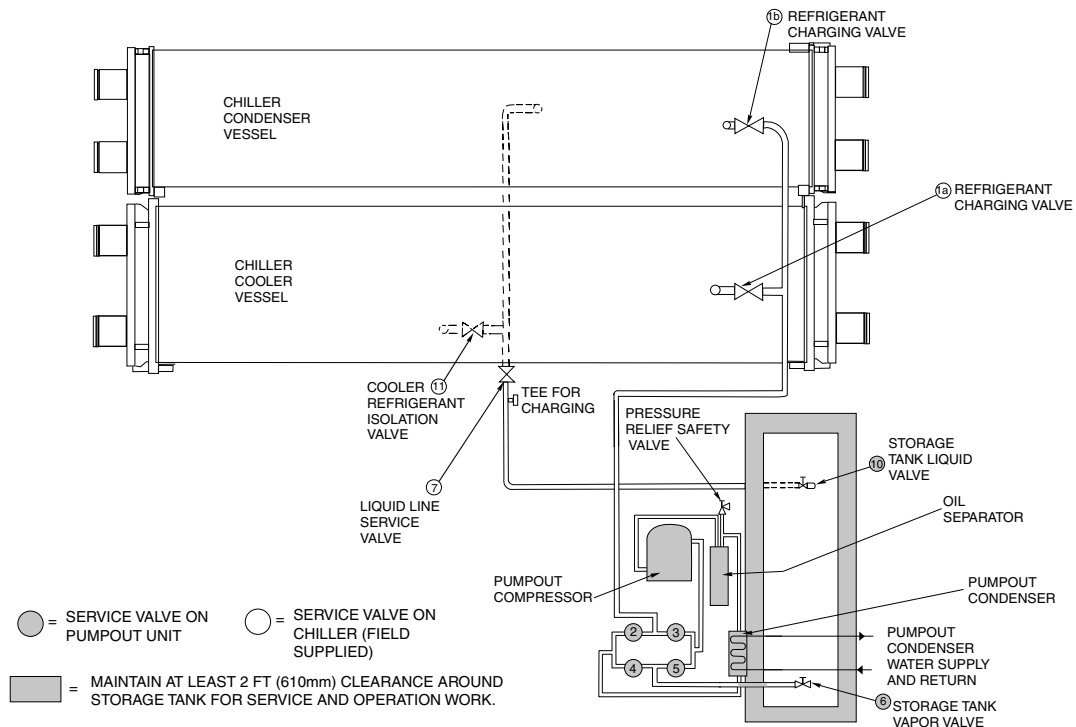

Fig. 33 — Typical Optional Pumpout System Piping Schematic with Storage Tank
3. Once the pressures have equalized, the cooler isolation valve, the condenser isolation valve, and the hot gas isolation valve may now be opened. Refer to Fig. 33 and 34 for the location of the valves.
2. Open valve 4 on the pumpout unit and open valves 1a and 1b on the chiller cooler and condenser, Fig. 33 and 34. Slowly open valve 2 on the pumpout unit to equalize the pressure. This process takes approximately 15 minutes.
If the chiller has been shipped with a holding charge, the refrigerant is added through the pumpout charging connection (Fig. 33 and 34, valve 1b). First evacuate the nitrogen holding charge from the chiller vessels. Charge the refrigerant as a gas until the system pressure exceeds 35 psig (241 kPa) for HFC-134a or 39 psig (268 kPa) for R-513A. After the chiller is beyond this pressure the refrigerant should be charged as a liquid until all the recommended refrigerant charge has been added. The charging valve (Fig. 33 and 34, valve 7) can be used to charge liquid to the cooler if the cooler isolation valve (11) is present and is closed. Do not charge liquid backwards through any of the floats to the condenser.